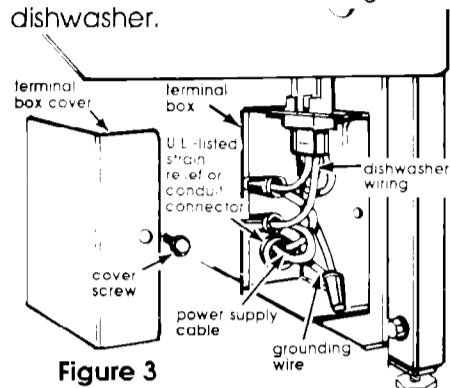

Figure 3
3. Remove the dishwasher terminal box cover. Connect the white and black wires of the power supply cable to the white and black leads in the terminal box with twist-on wire connectors. (See Figure 3.)
4. Connect the power supply grounding wire to the green, grounding wire inside the terminal box with a twist-on wire connector. (See Figure 3.)